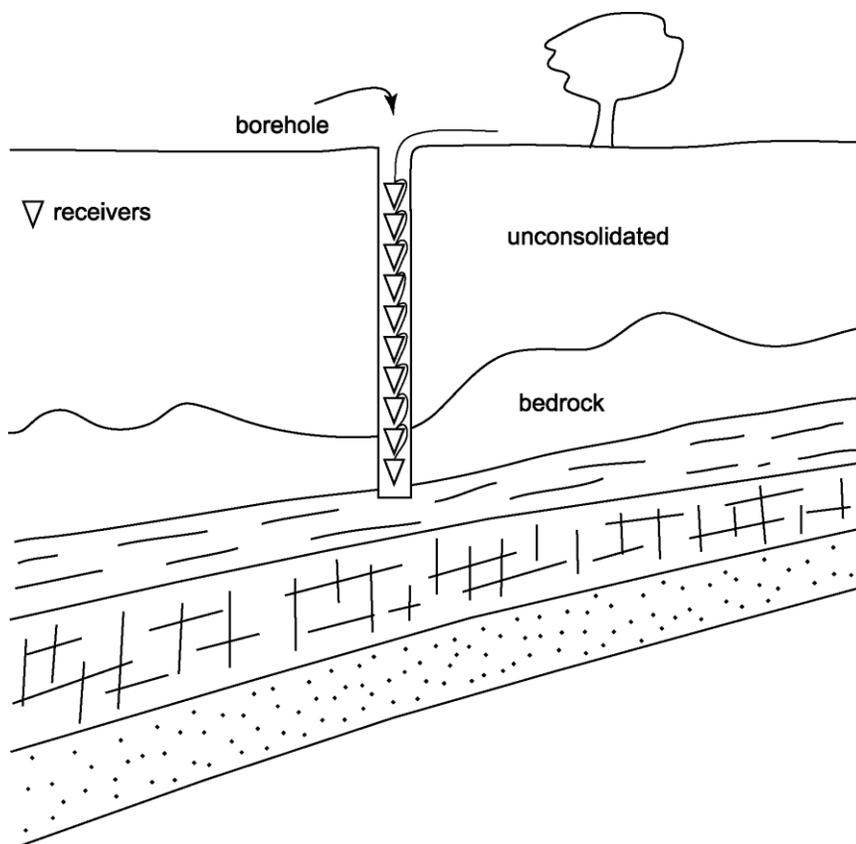
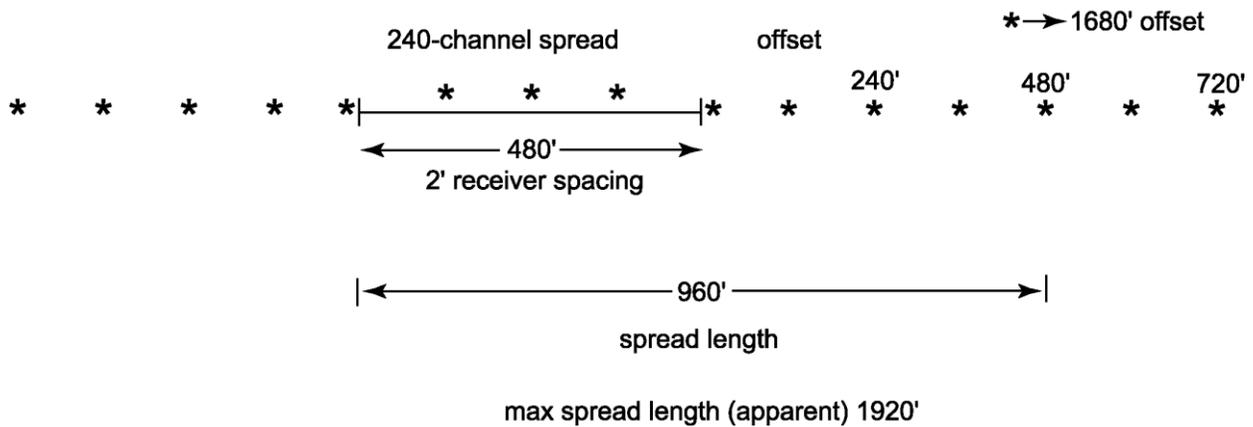

Figure 4.
Figure 5.
- i) Look at open holes or holes recently completed to install a disposal receiver array above and immediately below the base of the unconsolidated material (Figure 4)
- (1) Using array in borehole look at velocity and source signature and key attributes from several medium non-explosive energy sources (high-resolution vibrator, air gun, weight drop, etc.).
- (2) Correlate borehole information with surface spread deployed to optimize energy returning from near-surface, spread will consist of 2 ft receiver spacing and sources deployed within the spread and off both end consistent with locations on the ground surface where access is possible.
- (3) Evaluate wavetrain characteristics with different sources along expanded walkaway spread (Figure 5).